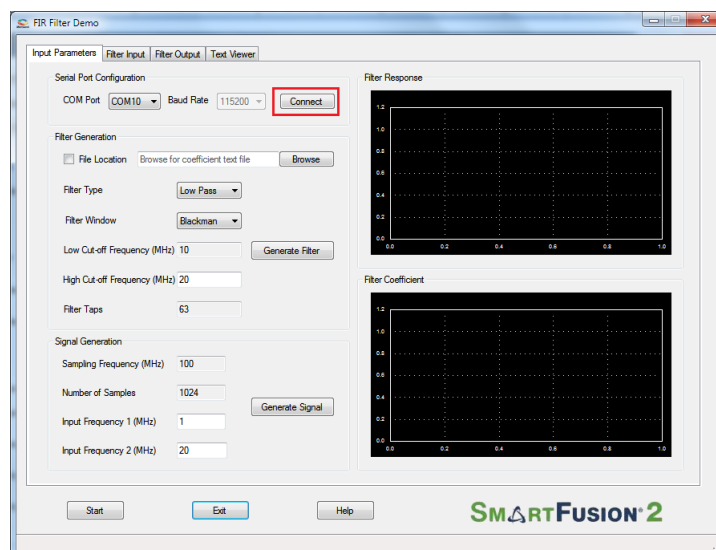

Figure 1-7 • Serial Port Configuration
2. Launch the DSP FIR Demo GUI executable file available in the design files. (\\FILTER_FIR_DEMO\GUI\SF2_FIR_Filter.exe). The GUI window is displayed, as shown in Figure 1-7.
3. **Serial Port Configuration:** The COM port number is automatically detected and baud rate is fixed at 11, 5200. Press **Connect** as shown in Figure 1-7.